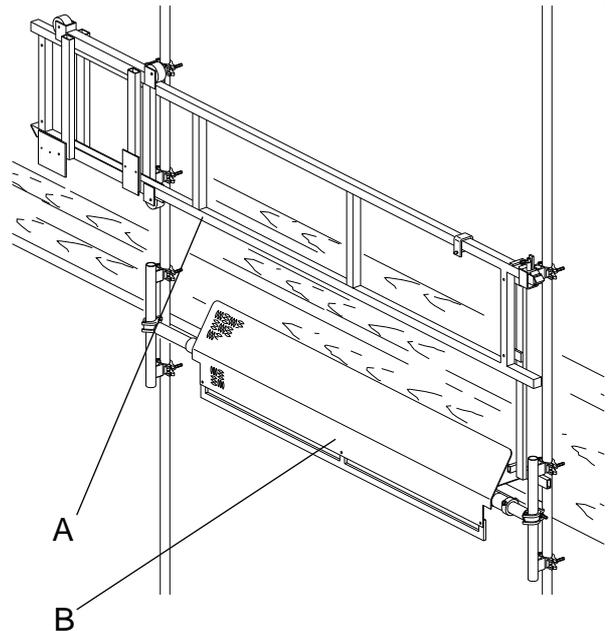

Fig.6-15 Landing striker plate
1. Install the landing barriers (fig.6-15, A) and kick boards (fig.6-15, B) at the required loading and unloading positions on the facade or scaffolding system.